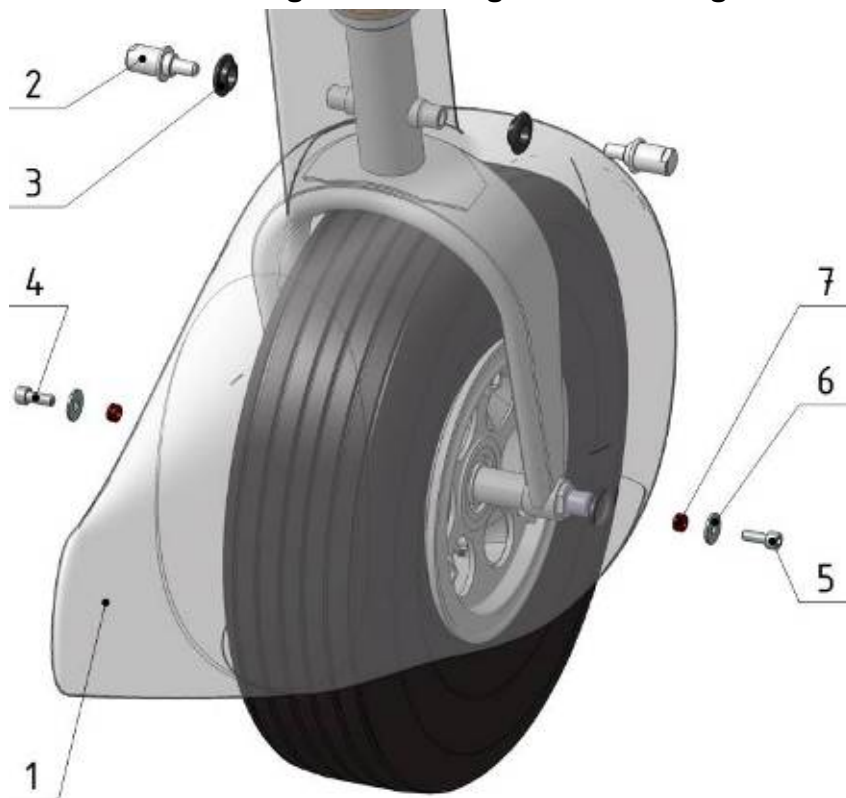

Fig. 32-20-4
B. Nose Wheel Fairing Uninstalling (Fig. 32-20-4)
C. Nose Wheel Fairing Installing (Fig. 32-20-4)